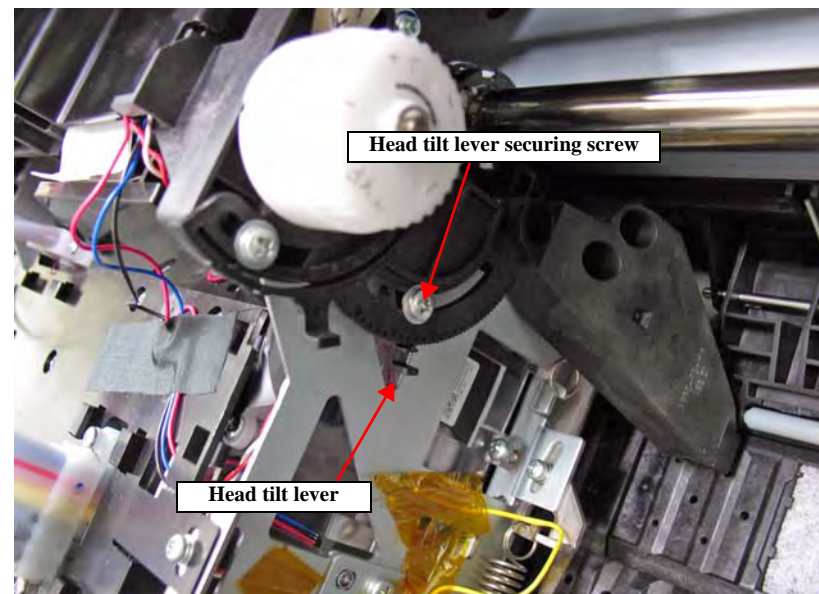

Figure 5-35. Head tilt lever
8. Loosen the head tilt lever securing screw shown in **Figure 5-35**.